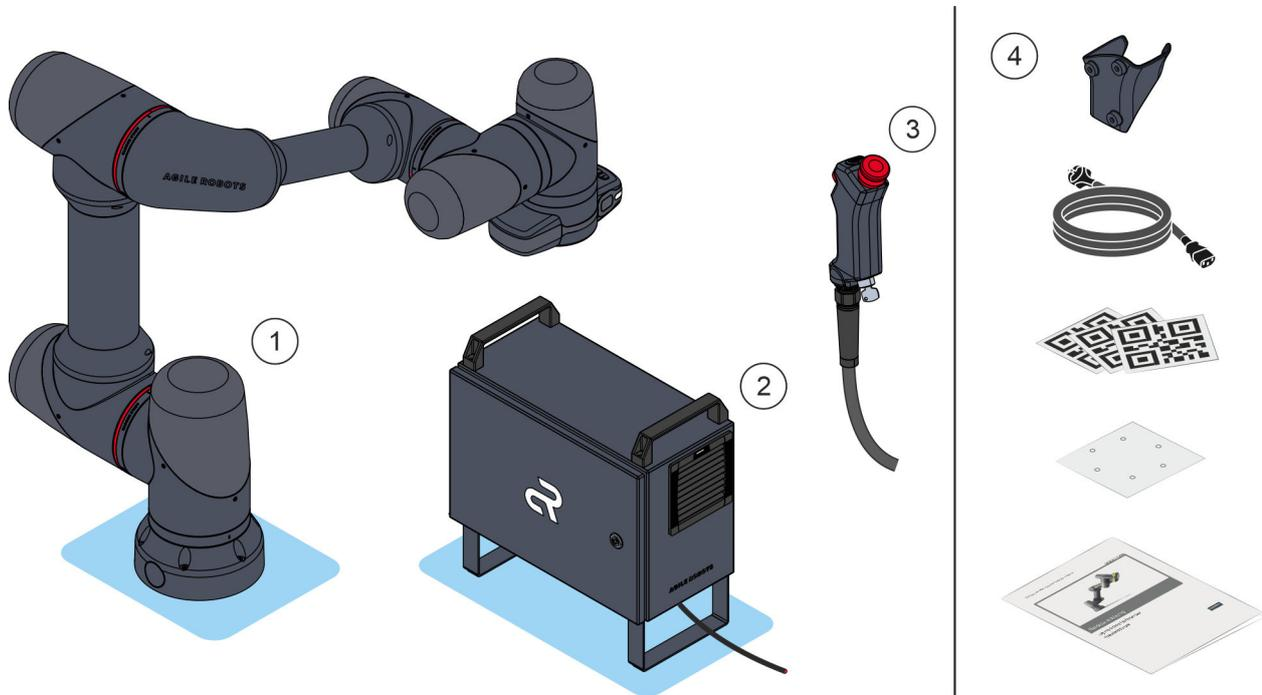

Fig. 2 The robot and its components
- ① Robot arm
- ② Robot controller
- ③ Handheld controller
- ④ Accessories and user documentation
The Yu 5 Industrial robot consists of the main components (①–③) shown in Fig. 2. The design and function of these main components are described in detail in the following sections.
In addition to the robot unit, the scope of delivery includes the accessories shown in Fig. 2 and the user documentation.